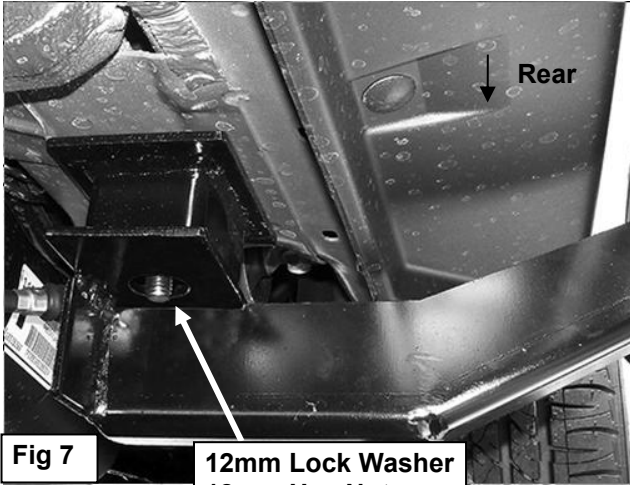

Fig 7
6	Attach the driver side rear Mounting Bracket to the Long Bolt Plate with (1) 12mm Flat Washer, (1) 12mm Lock Washer and (1) 12mm Hex Nut (Figure 7) .
8	Select the driver/left Sidebar and carefully place it onto the (2) Mounting Brackets. Attach the Sidebar to the Brackets with the included (4) M6 Square Hex Bolt, (4) M6 Flat Washers, and (4) M6 Nylon Lock Nuts (Figure 7 - 9) . Leave loose at this time.